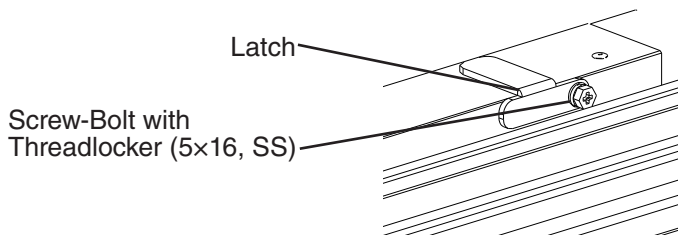

Fig. 32
- 11) Attach the lower door latch to the newly rotated lower door (former upper door). See Fig. 32.